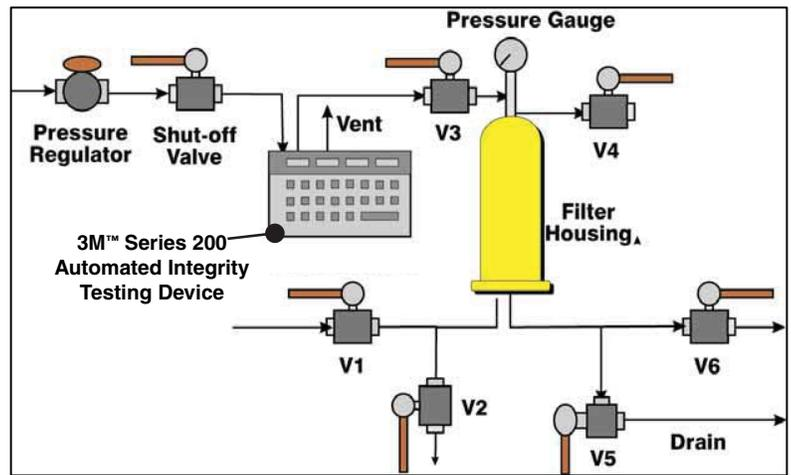

Figure 4 - Bubble Point Test (Automated Testing)
The bubble point pressure measurement is only recommended for single 10" or smaller cartridge and capsule filters. When more filter area is online, it can become difficult to distinguish diffusional flow from the true bulk flow which occurs at the bubble point pressure. For systems with two or more 10" equivalent cartridges, Forward Flow or Pressure Hold measurements are recommended. The 3M™ Series 200 Automated Integrity Testing Device can be used to perform a bubble point test. Prior to conducting a bubble point test the filter must be full wetted (see "Filter Wet-Out" section). When using the 3M Series 200 Automated Integrity Testing Device, follow the installation instructions for connecting the unit to the upstream valve as shown in Figure 4.
## Procedure #2. Bubble Point Test (Automated Method - Figure 4)
- A. Configure the system as shown in Figure 4. Connect a pressure regulator to a sterile compressed air source (DO NOT USE CO2) capable of delivering a minimum of 1.4 bar (20 psig) more than the required test pressure. Minimum Bubble Point test pressure for LifeASSURE PDA series filter is 3.1 bar (45 psig).